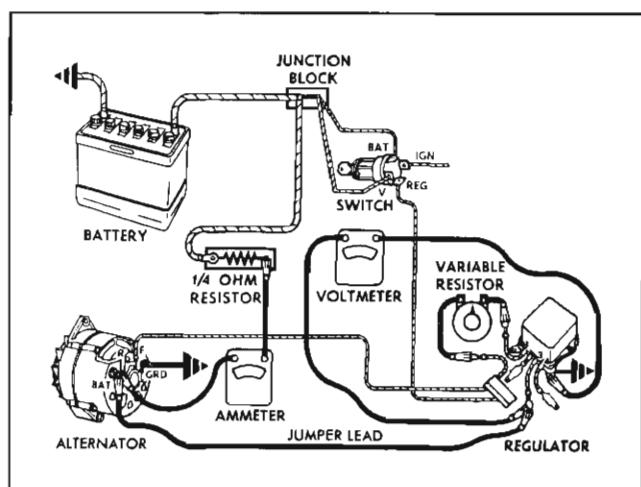

Fig. 11-30 Checking Voltage Setting
- Connect an ammeter and a $\frac{1}{4}$ ohm resistor with a rating of 25 watts or more in series in the circuit at the "BAT" terminal on the alternator (Fig. 11-30). In case the battery is discharged, the $\frac{1}{4}$ ohm resistor will limit the alternator output to 10 amperes or less which is required when checking and adjusting the voltage setting.